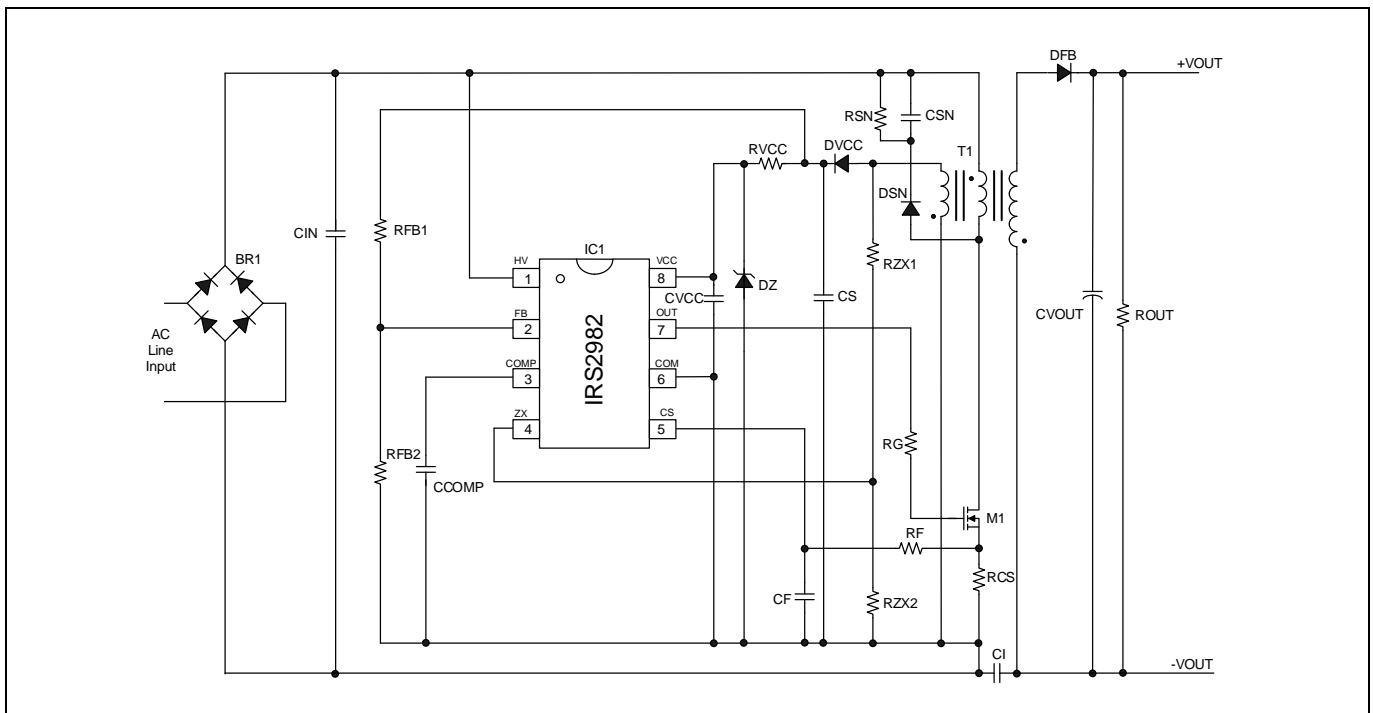

Figure 4 Isolated voltage regulated Flyback converter based on the IRS2982S
The SMPS control section operates in voltage mode where the gate drive output on time is proportional to the error amplifier output voltage appearing at the compensation output COMP. An external capacitor CCOMP (shown in figure 4) connected to 0 V (ground) acts with the trans-conductance characteristic of the error amplifier to provide loop compensation and stability. Minimum on time is reached when V_{COMP} falls to $V_{COMPOFF}$ below which the gate drive is disabled. Under very light load conditions V_{COMP} transitions above and below $V_{COMPOFF}$ to produce burst mode operation. Off time is determined by the demagnetization signal received at the ZX input, which is derived from the auxiliary transformer winding that supplies VCC through a resistor divider. Internal logic limits the minimum off time to t_{OFFMIN} , therefore the system transitions from CrCM to DCM at light loads. If the ZX input signal fails to provide triggering the next cycle will start automatically after a re-start period of t_{WD} .
The IRS2982S can operate in any of the four combinations of (1) and (2). Extremely accurate current or voltage regulation is achieved in non-isolated converters since direct feedback to the FB input is possible. Isolation is however required in the majority of Flyback converters. For isolated constant current regulation an opto-isolator is necessary; for isolated constant voltage regulation feedback may be taken from the auxiliary winding as shown in figure 4 with a small loss of line and load regulation accuracy. An opto-isolator is also necessary for highly accurate voltage regulation.
The basic circuit in figure 4 shows the main elements of the IRS2982S based PFC Flyback converter. This can be used as a stand-alone power supply or as a front end stage with a current regulating Buck regulator as the back end stage in a dimmable (or non-dimmable) off line LED driver. This front end stage is able to provide a regulated output voltage over a wide range of line and load with sufficient accuracy for the majority of applications.
The IRXLED04 eval board is populated for basic voltage regulation from the transformer auxiliary winding as shown in figures 4 and 5.